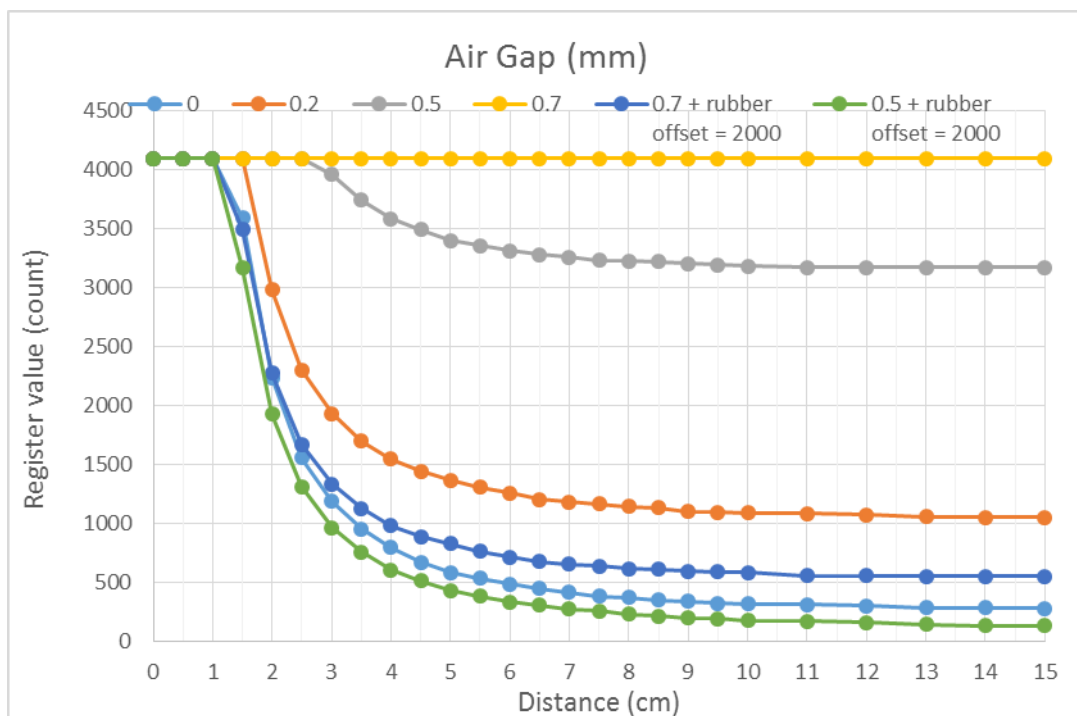

Figure 13. Influence of Air gap on APM
- Figure 13 shows the Impact of D_{airgap} on APM.